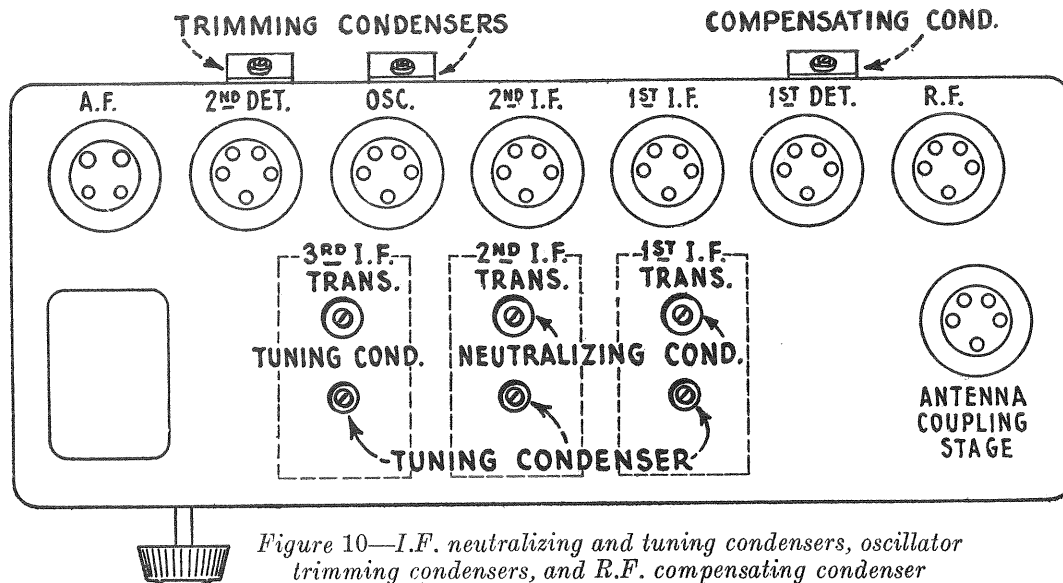

Figure 10—I.F. neutralizing and tuning condensers, oscillator trimming condensers, and R.F. compensating condenser
- (a) Adjust the tuning condensers successively on the third, second and first I.F. transformers (Figures 10 and 11), for maximum signal in the loudspeaker and maximum reading on the milliammeter. If pointer should go off milliammeter scale reduce the volume control. After making one adjustment on the transformers it is a good plan to repeat, as slight changes may have occurred in tuning the other circuits. No signal, or a loud howl indicates neutralizing condensers are out of adjustment and they should be readjusted.